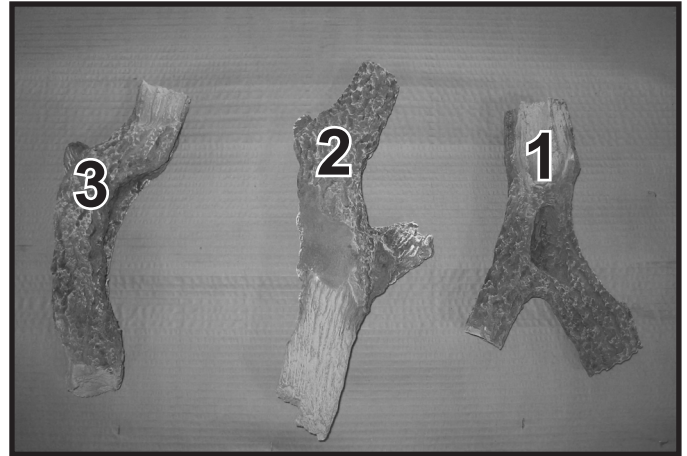
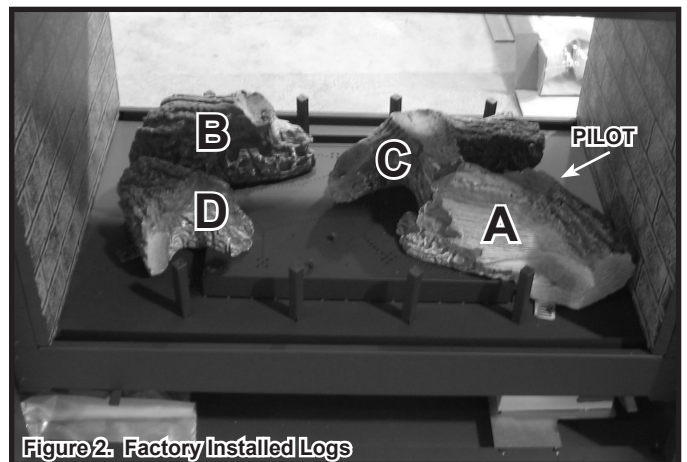

Figure 1. Log Assembly Location
Figure 2. Factory Installed Logs
STEP 1. CAUTION! Logs are fragile! Carefully remove the logs and cardboard tray from the inside of the fireplace. See Figure 1. Remove the microfoam and inspect the logs for damage. Inspect the four factory installed logs for damage. Locate the pilot in order to verify your position in relation to the appliance. See Figure 2.